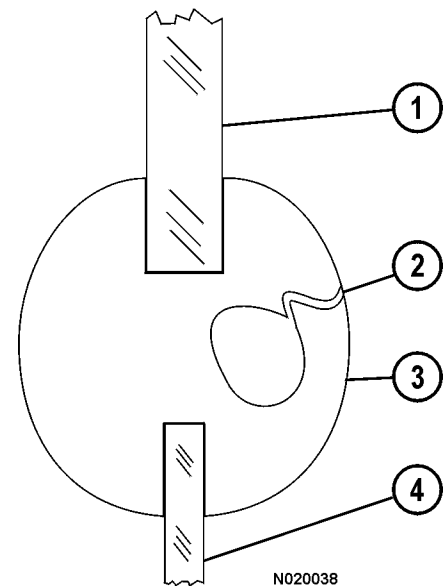

FIGURE 2-19. FRONT WINDSHIELD
2. Starting at the lower center of the glass, pull out weatherstrip locking lip (2, Figure 2-19 or 2-20). Use a non-oily rubber lubricant and a screwdriver to release the locking lip.
3. Remove glass (1) from weatherstrip (3) by pushing it out from inside the cab.
- a. Install weatherstrip (3, Figure 2-19 or 2-20) around the window opening. Start with one end of the weatherstrip at the center, lower part of the window opening and press the weatherstrip over the edge of the opening.
5. After the glass is in place, go around the weatherstrip and push in on locking lip (2) to secure the glass in the weatherstrip.